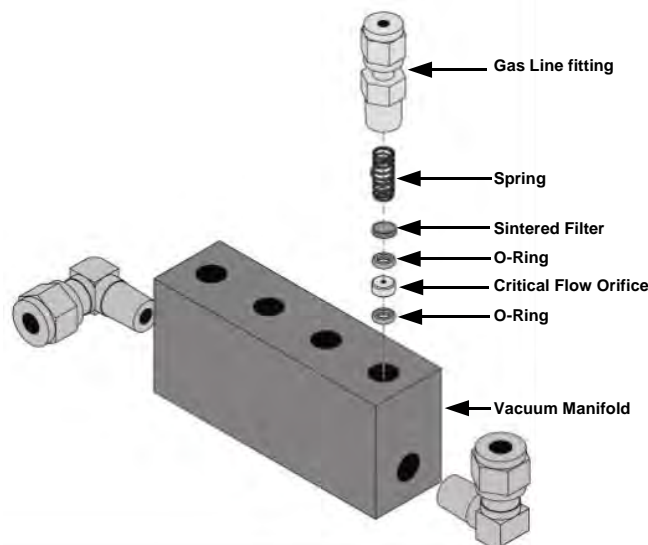

Figure 9-2: Critical Flow Orifice Assembly
2. Locate the critical flow orifice on the pressure sensor assembly (called out in Figure 9-2).
10. Re-assemble the parts as shown in Figure 9-2 using a new filter and o-rings.